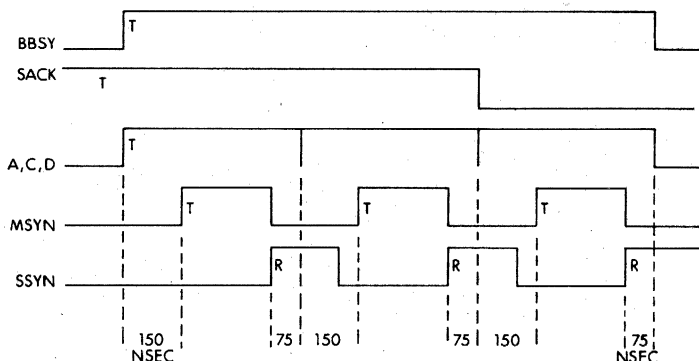

Figure 5-14 Device Multi-Word Transfers
- h. SACK is dropped at the same time INTR is asserted if the device is interrupting. If the device is to transfer data first, the SACK signal is dropped prior to the start of the last bus cycle that the device does, see Figure 5-14.
- If immediate interrupt operation is to be initiated, a device which has been selected as bus master asserts INTR and a vector address on the D lines, at the same time that it clears SACK and asserts BBSY. If data transfers occur prior to interrupt then SACK must remain asserted until INTR is asserted. If the device has been making data transfers prior to the interrupt, it should assert SACK through the last cycle, see Figure 5-14.